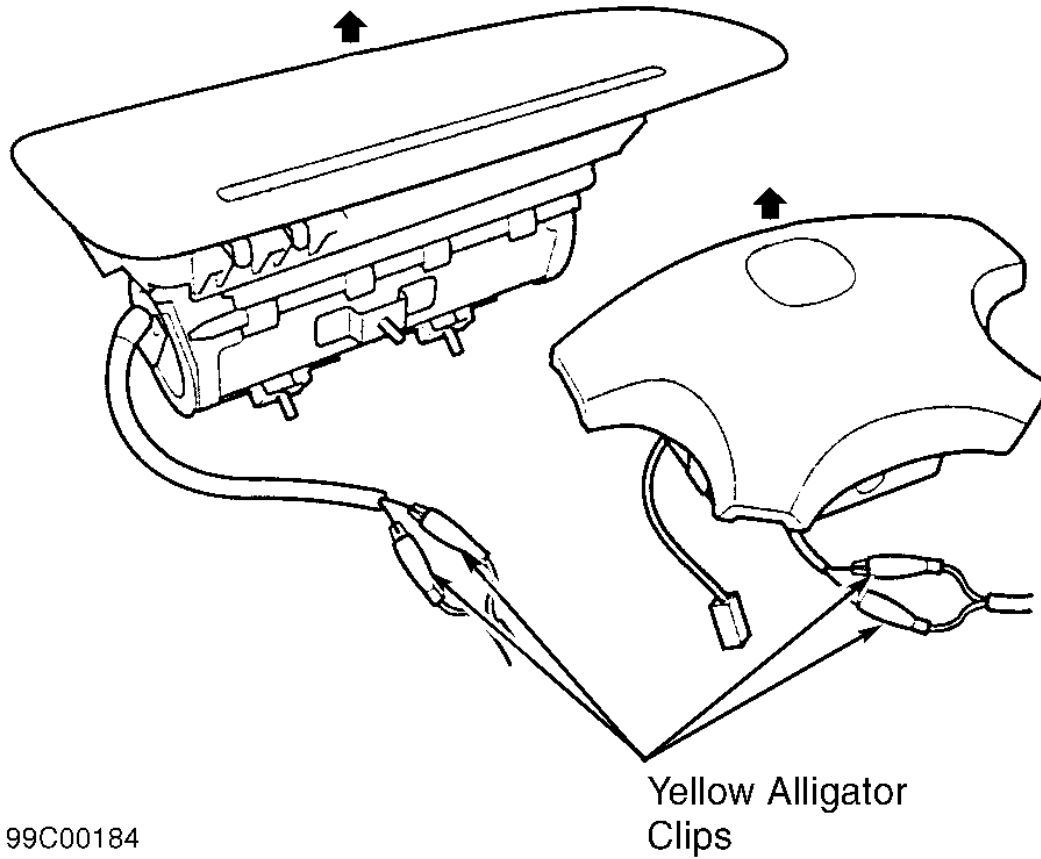

Fig. 9: Deploying Removed Air Bag
2. Position air bag module deployment side up, outdoors on flat ground and at least 30 feet (10 m) from people or obstacles. Cut off air bag connector, and strip back 1" (25 mm) of insulation from wire ends. Connect Yellow alligator clips of deployment tool to uninsulated wire ends. See **Fig. 9** . Place tool at least 30 feet (10 m) away from air bag.